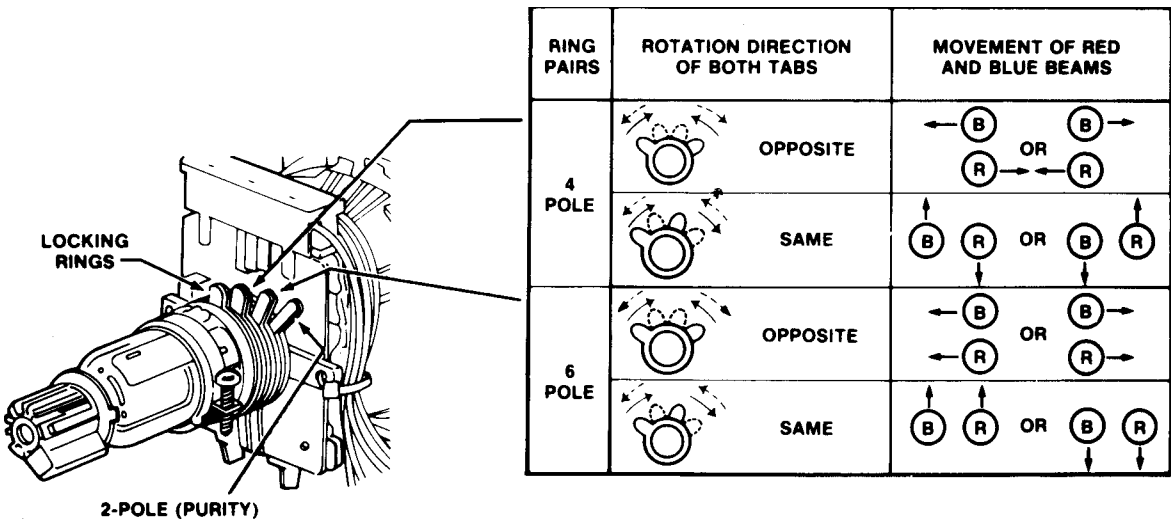

Fig. 5 - In-Line Kine Convergence Ring Adjustment
10. Converge the red and blue vertical lines to the green vertical line at the center of the screen by performing the following steps (Fig. 5).
11. Converge the red and blue horizontal lines with the green line at the center of the screen by performing the following steps (Fig. 5).